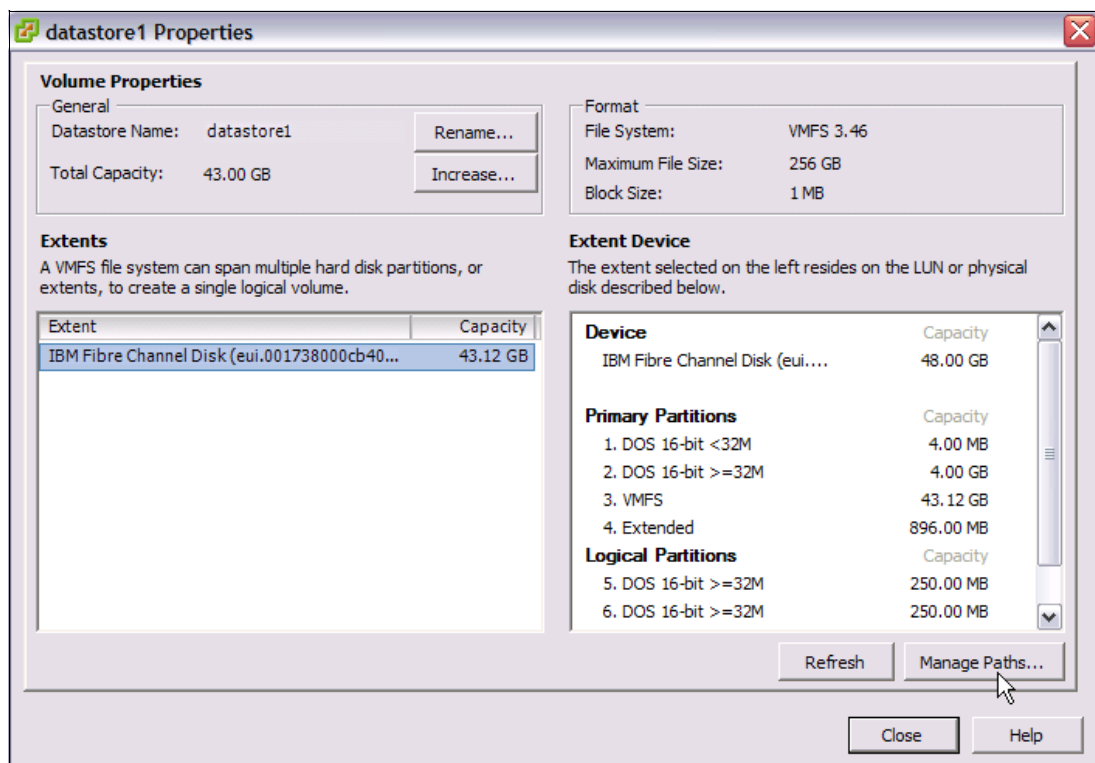

Figure 4-46 VMware VSphere client: Datastore properties
Figure 4-46 displays an example of a datastore that represents the SAN Boot XIV volume that was used during the installation of ESXi 4.1. To display explicit information about the Fibre Channel (FC) paths associated with that datastore, click **Manage Paths**.